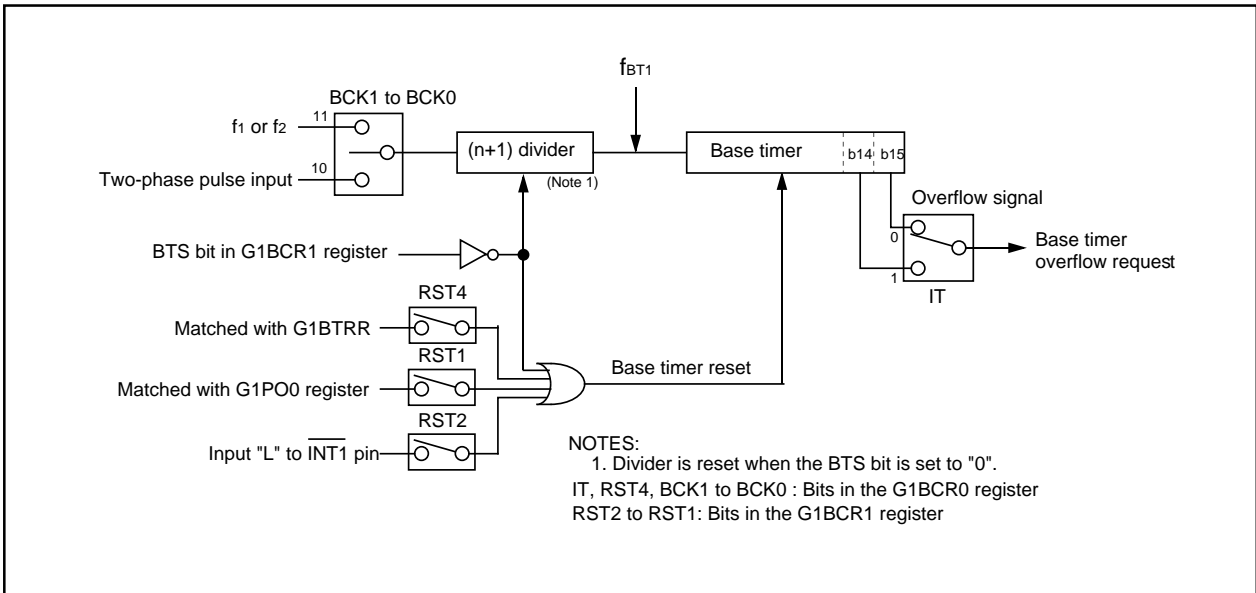
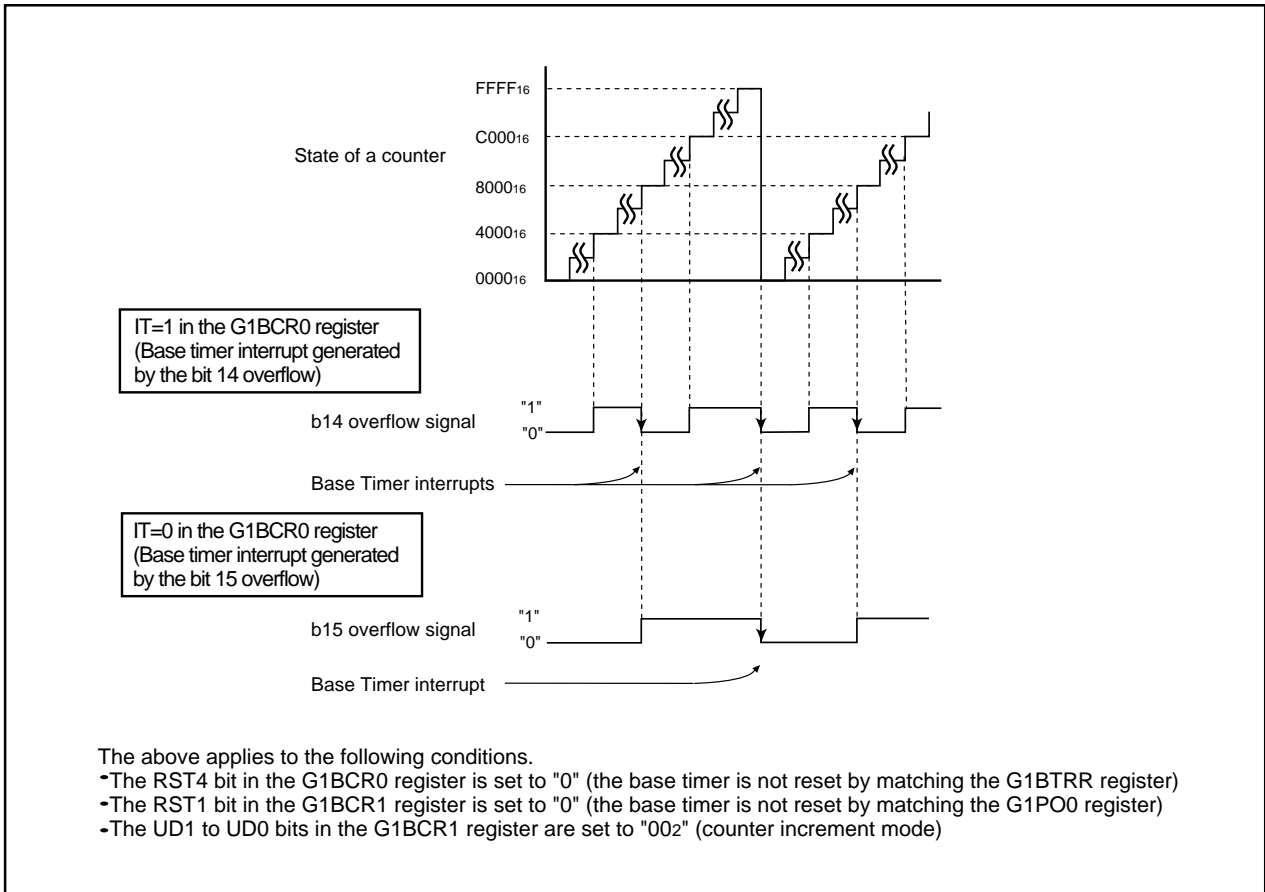

Figure 13.11 Base Timer Block Diagram
Figure 13.12 Counter Increment Mode
Figure 13.11 shows a block diagram of the base timer. **Figure 13.12** shows an example of the base timer
Interrupt request	The base timer interrupt request is generated: (1) When the bit 14 or bit 15 in the base timer overflows (2) The value of the base timer value matches the value of the base timer reset register (See Figure 13.11)